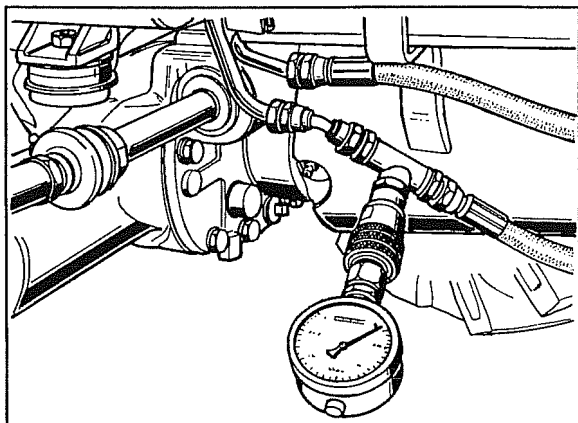

Fig. 56
1. Apply a pressure gauge to one of the two oil delivery hoses to the cylinder as shown in Figure 56.